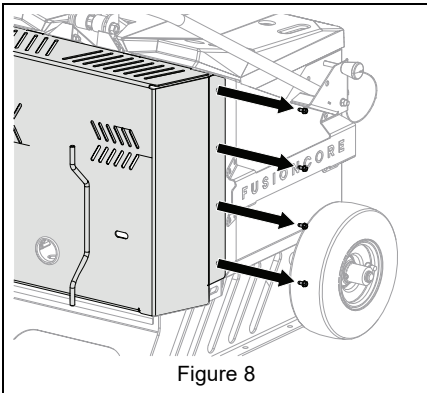

Figure 8
1. Remove and retain four tapping screws from each side of access panel. See Figure 8.